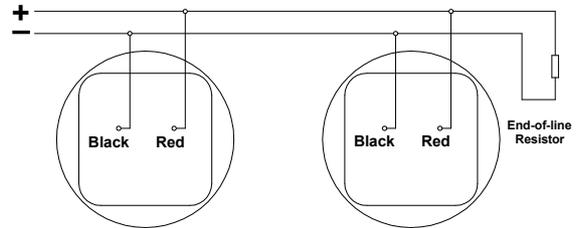

Fig. 3: Wiring connections
2. Connect the conductors to the terminals as shown in Fig. 3.